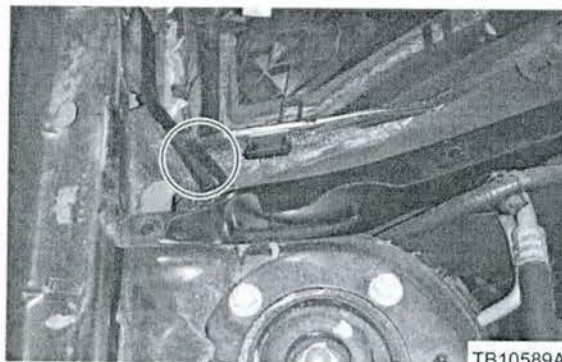

Figure 4 - Article 14-0157
7. Cut away the forward corner of the rain hat to improve drainage. (Figures 4 and 5)